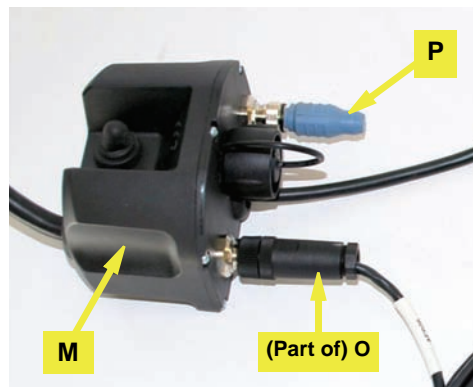

Figure 4d: CAN harness and terminator connected to junction box
- e. Connect the threaded 5-pin connector on the CAN bus harness **O** to either of the threaded connectors on the junction box **M**. Connect the CAN bus terminator **P** to the other threaded connector on the junction box (Figure 4d).